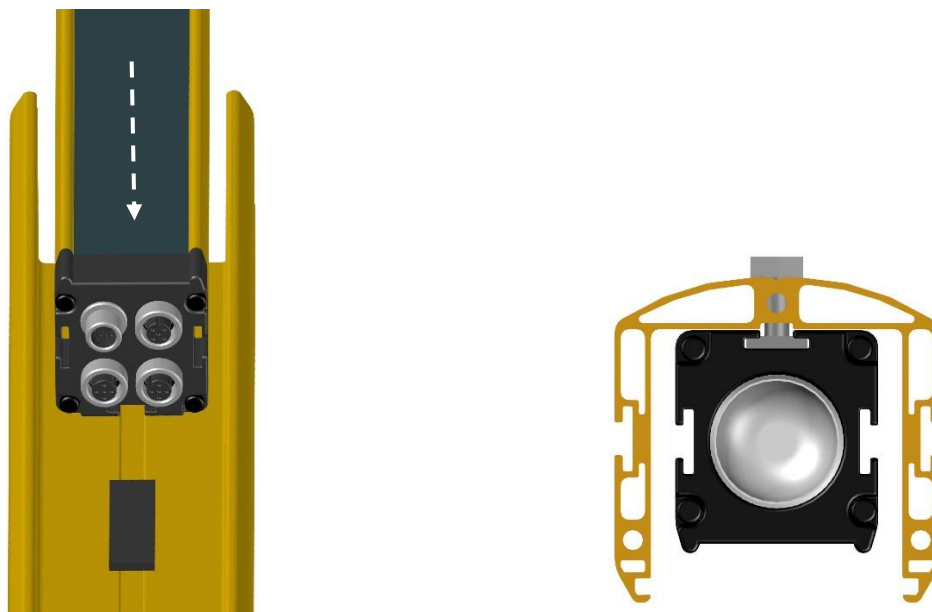

Figure 15
- Insert the barrier from the top into the column, making sure that all the inserts slide in the slot on the back of the barrier (Figure 15).
- When the correct position is achieved, (dimension H, table 1) lock the allen screws to fix the barrier (Figure 15).